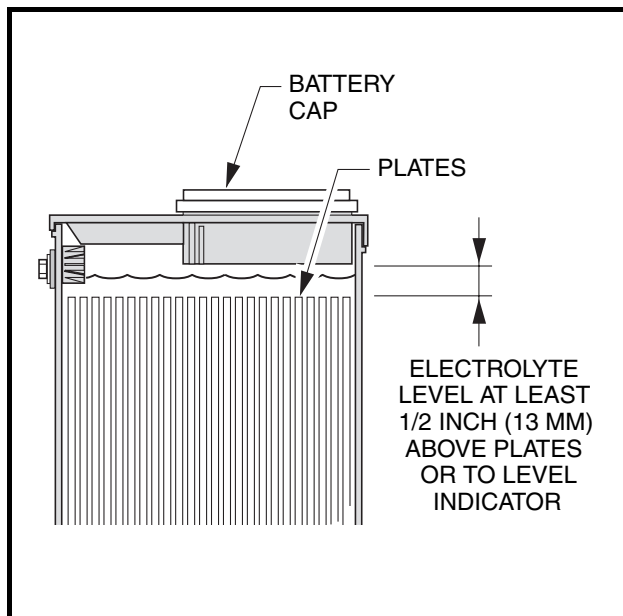

Figure 11-2 Battery Electrolyte Level
1. Be sure that the battery has sufficient water to cover the plates by approximately 1/2 inch (12.7 mm) and is fully charged prior to beginning the test. If water must be added, recharge the battery before performing the hydrometer test (**Figure 11-2, Page 11-9**).